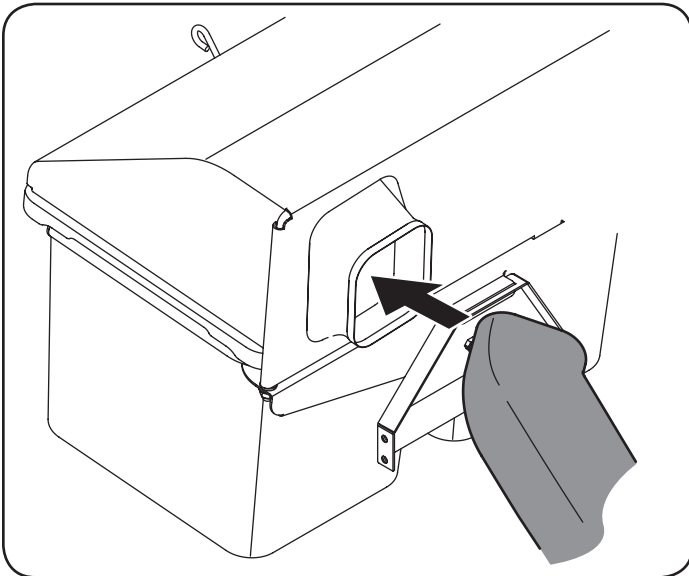

Figure 8
8. Insert the chute tube through the grass-catcher hood, in the opening provided. It is easiest to feed the end of the tube into the opening with the chute tube flipped upside down, then rotating right-side once inserted into the hood. See Figure 8.